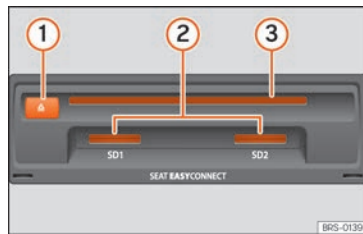

Fig. 196 Slots for data storage devices in the glove compartment.
- Insert a CD or DVD into the slot »» **Fig. 196** ③ with the printed side facing upwards, until the equipment inserts it automatically.
Insert the compatible memory card, with the cut corner first and the contacts facing down, into slot »» Fig. 196 (2), until it clicks into place.